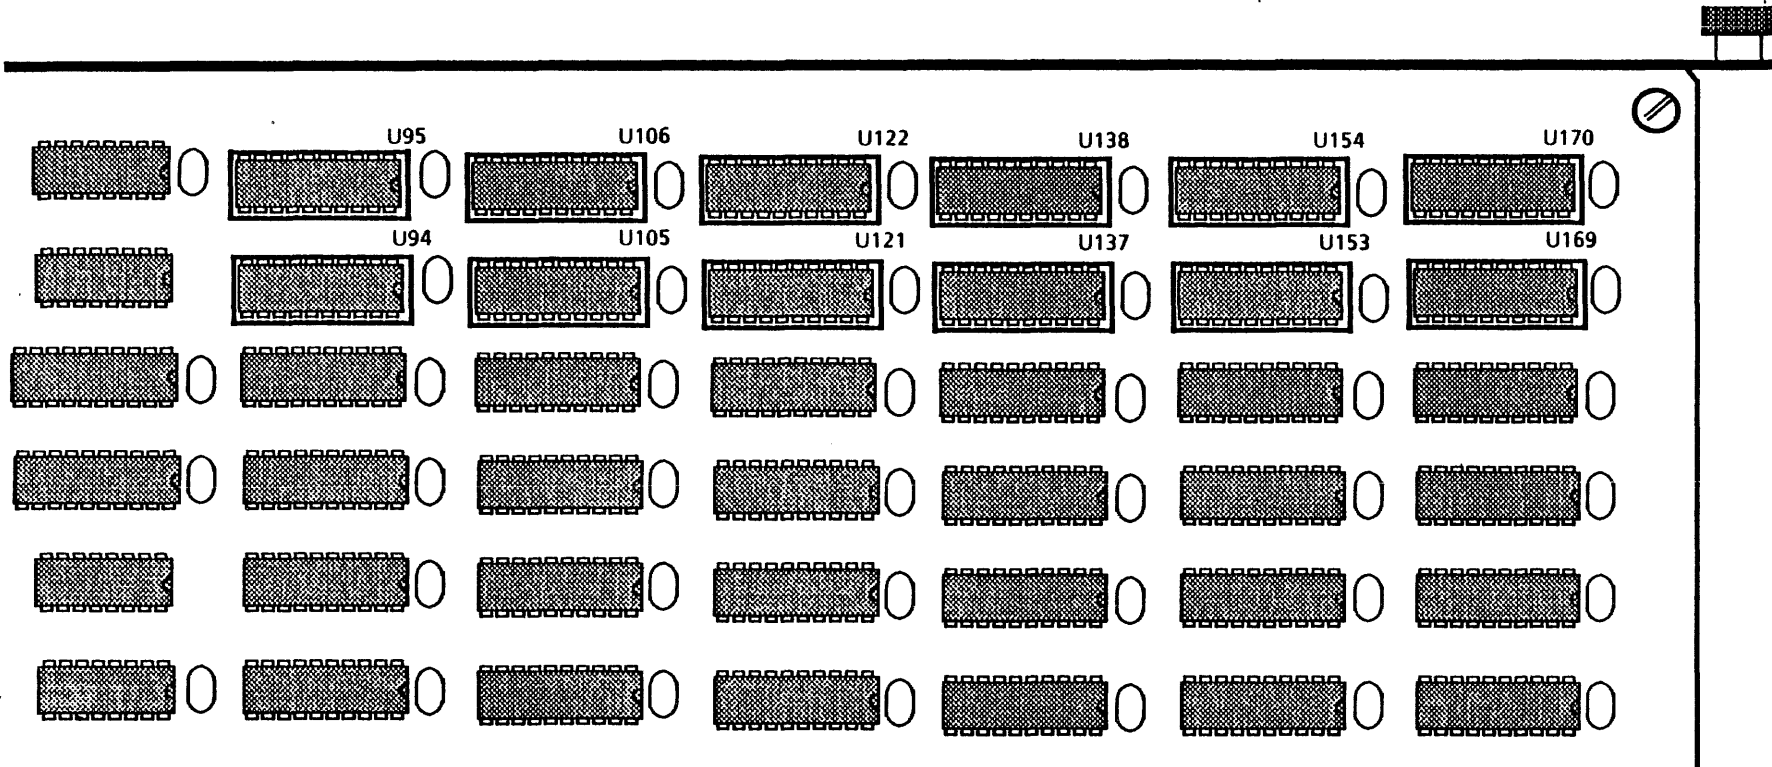

Figure 4-13 MPB PWBA
1. Locate the sockets that will receive the twelve chips (Figure 4-13). These sockets are numbered U95, U96, U105, U106, U121, U122, U137, U138, U153, U154, U169, and U170.